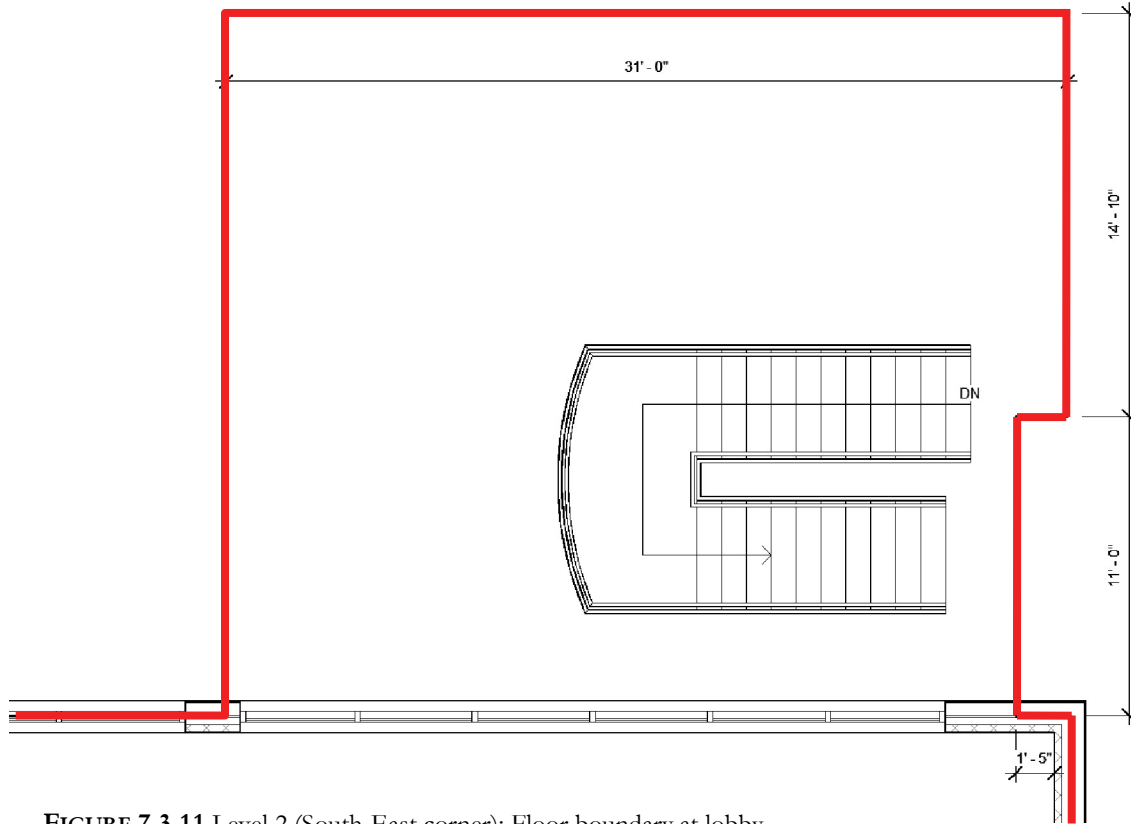

FIGURE 7-3.11 Level 2 (South-East corner): Floor boundary at lobby
26. Sketch the floor opening as shown in Figure 7-3.11: